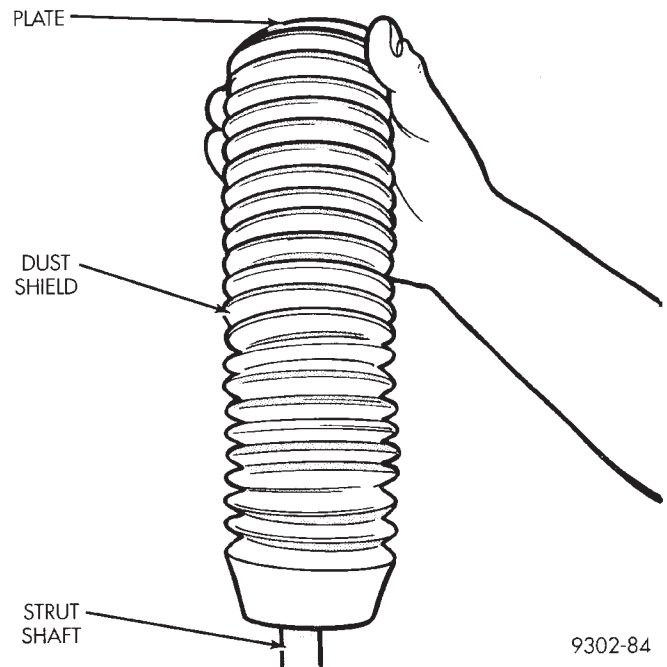

Fig. 43 Plate, Dust Shield And Jounce Bumper
(7) Remove the plate, dust shield and jounce bumper as an assembly from the strut (Fig. 43).
(3) Install the dust shield, jounce bumper and top plate as an assembly onto the strut unit (Fig. 43).